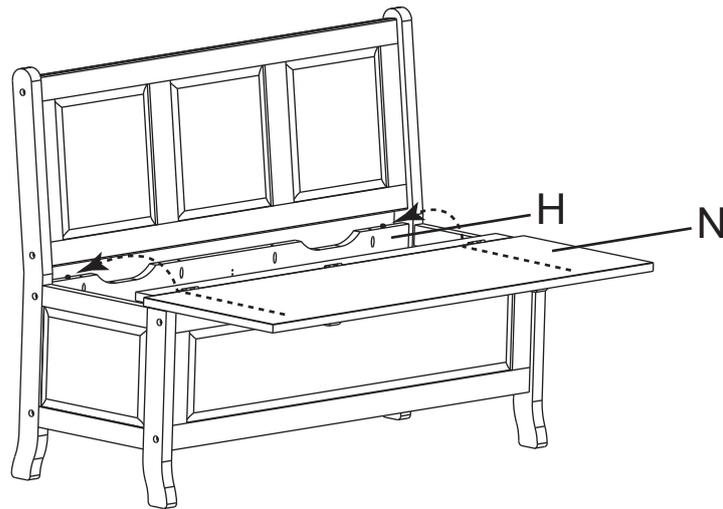

**Fig. 4**
4. Spread a thin layer of glue in the dowel holes in one of the Right Side Assemblies (G) and attach to the bench assembly. Gently tap with a padded hammer and quickly wipe away excess glue with a damp rag. Using the provided Hex Wrench (Z), insert six 1/4"x63mm Hex Screws (S). See Figure 4.